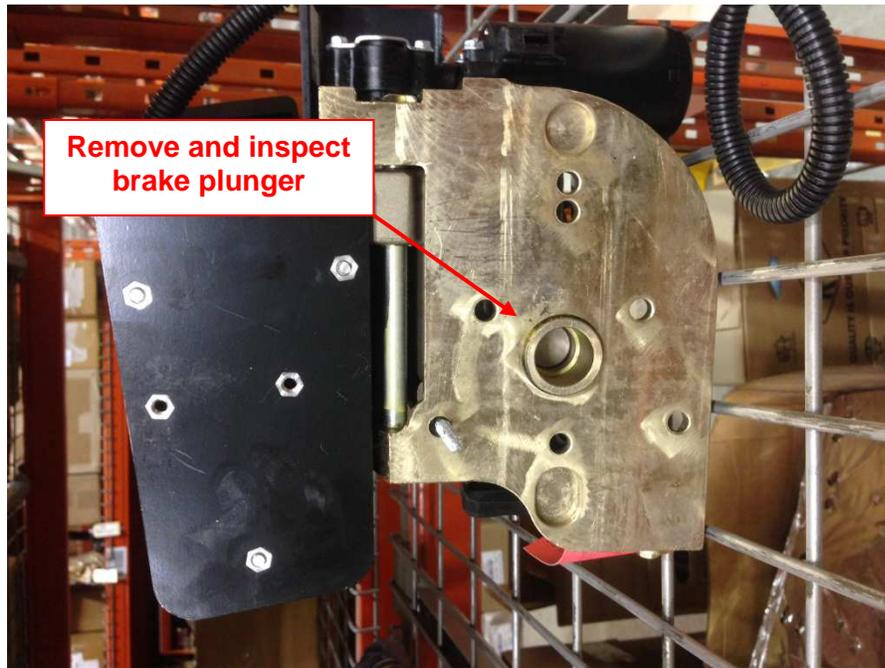

Figure 11: Inspect the Brake Plunger
26. Remove the brake plunger, see Figure 11.